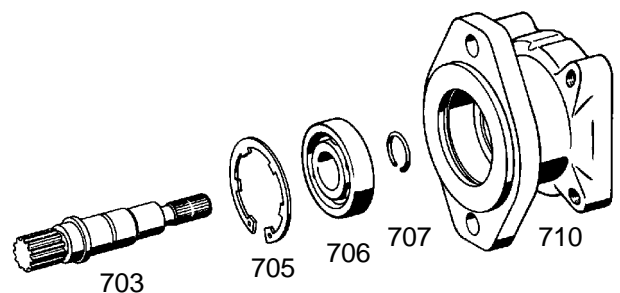

Fig. 12
Snap out retaining ring (705) (Fig. 12).